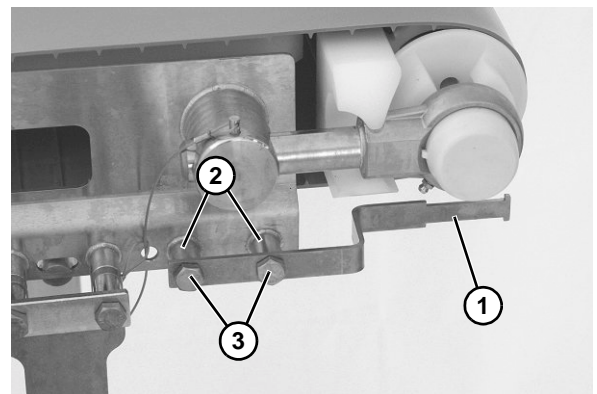

Figure 26
1. Loosely bolt limiter support plate (Figure 26, item 1) to conveyor frame stand off posts (Figure 26, item 2). Repeat on opposite side.
3. Adjust limiter to within 1/32" from belt, and tighten screws (Figure 26, item 3).